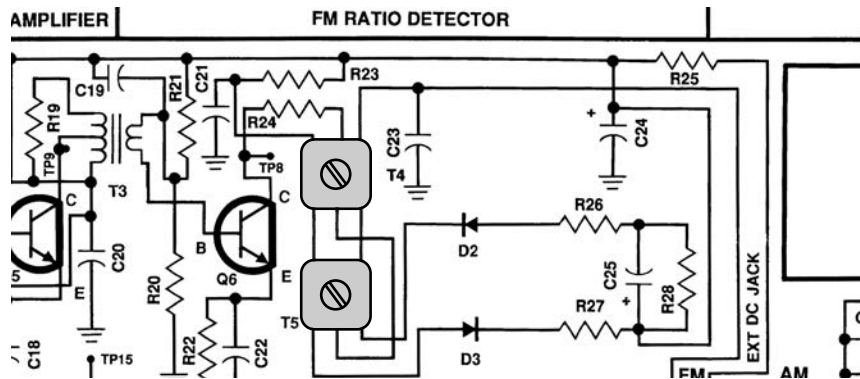

Figure 28
- C23 - .02 μ F (203) or .022 μ F (223) Discap
- T4 - FM Detector Coil (Pink Dot) (see Figure 28)